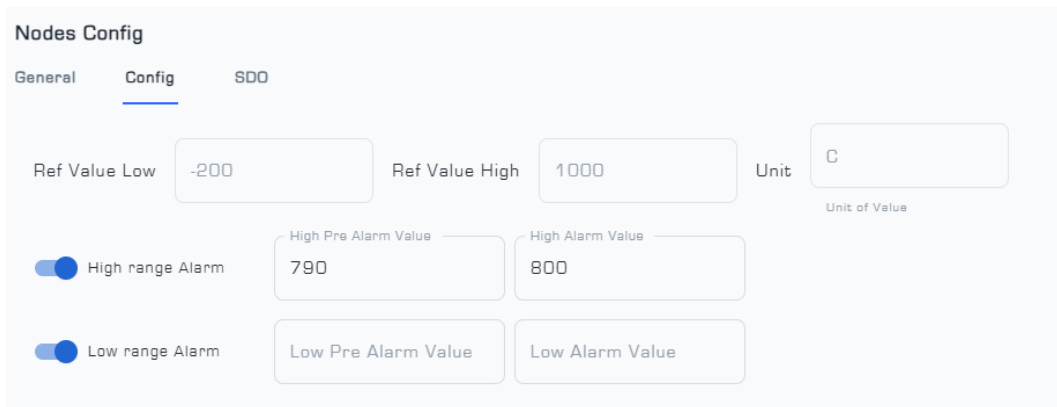

Figure 6: Config Menu from Nodes Setting Page
■ In the Config menu of the node, as shown in Figure 6, the Node alarm settings can be adjusted. These settings include: High Alarm Value and High Pre-Alarm Value, which are used to set the alarm and pre-alarm for the maximum risk value of the node; and Low Alarm Value and Low Pre-Alarm Value, which are used to set the alarm and pre-alarm for the minimum risk value of the node.